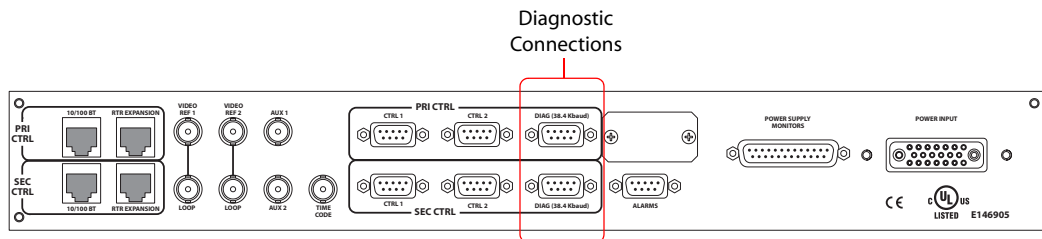

Figure 3-17. Diagnostic Connections (Rear View)
- 1 Locate the diagnostic connections on the rear of the router, as shown in Figure 3-17. The diagnostic connections are labeled ‘DIAG’.